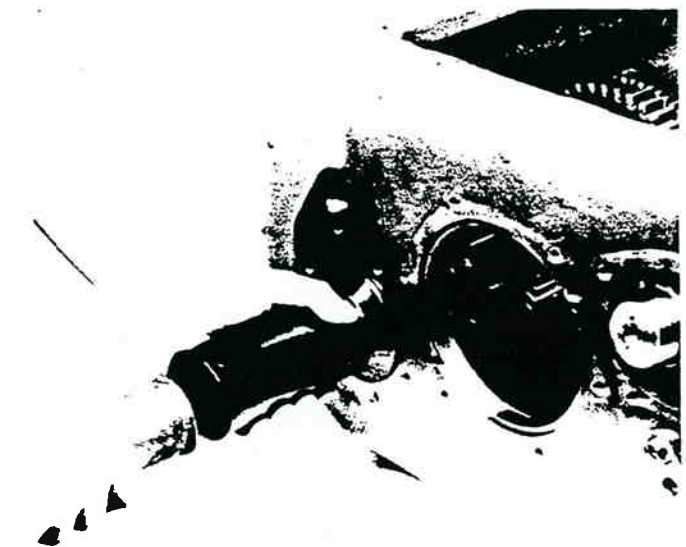

Figure 13-112. Installing Rear Bearing.
5. Remove countershaft support tool from rear case bore and install countershaft rear bearing with the larger I.D. lead chamfer toward front of transmission (figure 13-112).